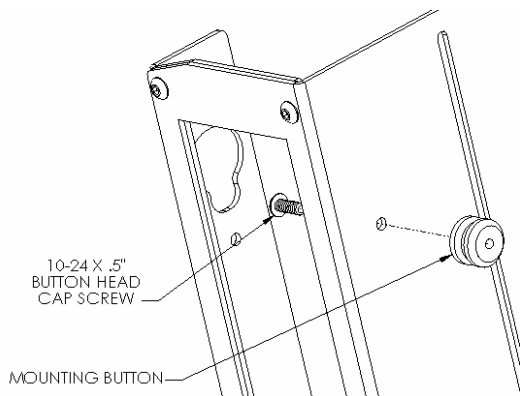
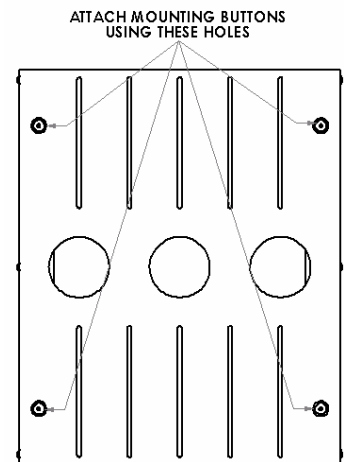

Figure 2
Figure 3
1. Using a 10-24 button head cap screw inserted from inside of bracket, secure mounting button, with chamfered hole of mounting button (larger surface) facing bracket, to bracket (4 places) (see Figure 2 & Figure 3).